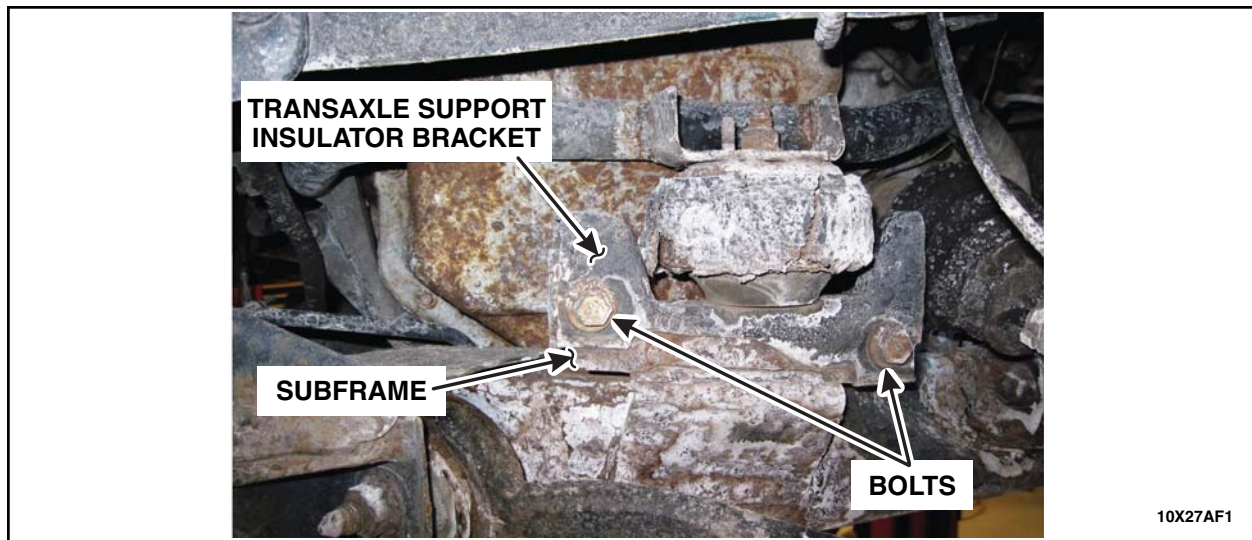

FIGURE 2
2. Remove the two bolts securing the transaxle support insulator bracket to the subframe. See Figure 2.